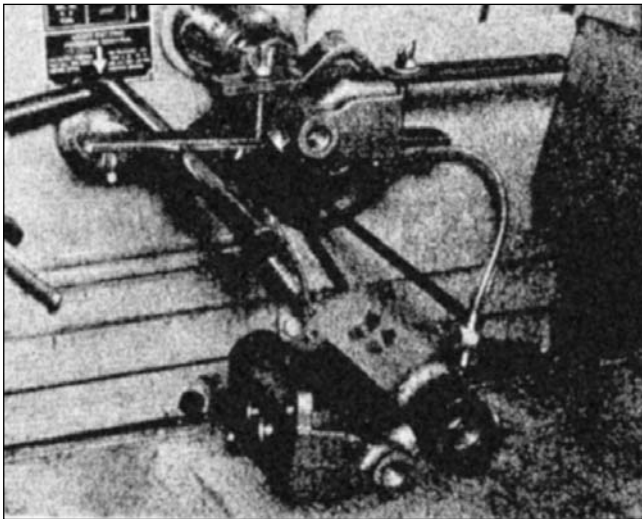

Figure 2, Clamp Holder
**FIGURE 2:** A "UNIVERSAL" CLAMP HOLDER, VERY EASY TO MAKE. This clamp will hold either round or odd-shaped parts covering a wide size range. Clamp handle slides along the work support which absorbs all torque. Tu-bular shaped parts with thin walls should not be clamped like this - for such work use the Loop-Grip Sunnen Holder shown in Figure 17.